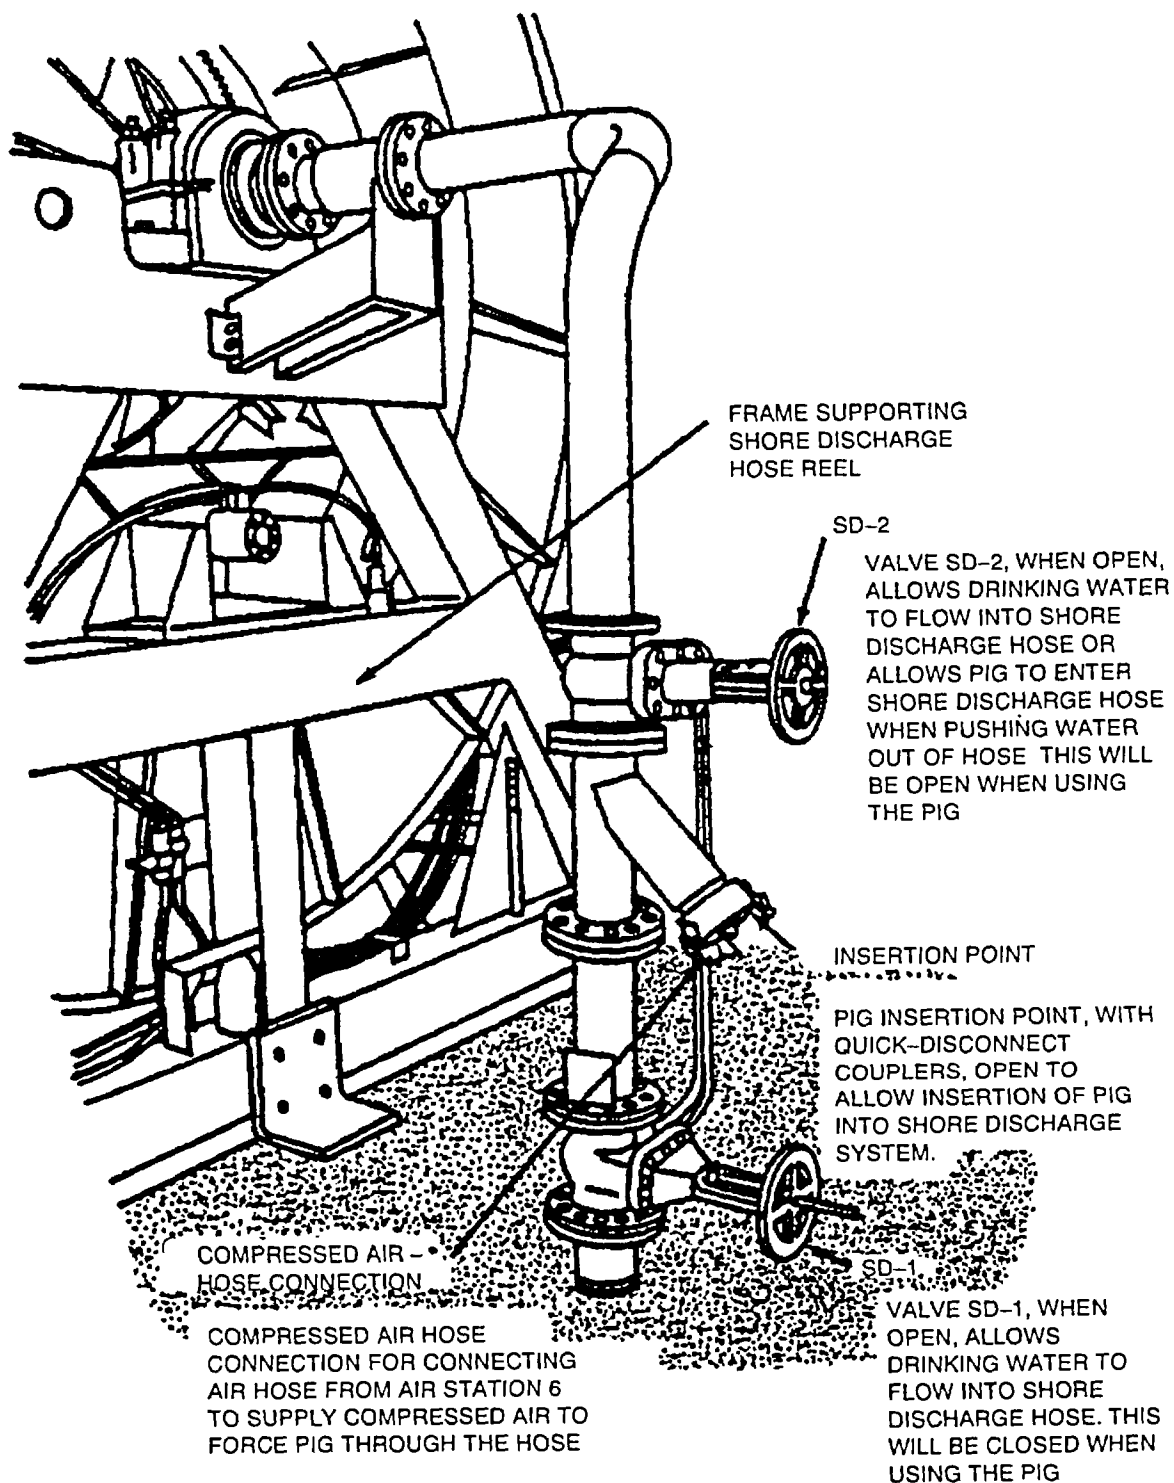

Figure 3-7. PIG Launcher Controls
- c. On PIG launcher insertion point, unlock two quick disconnect couplers and pull cap off insertion tube (Figure 3-7). Insert clean PIG into tube, replace cap, and lock two quick disconnect couplers.
- d. Connect designated 25-foot airhose to compressed air station 6 quick disconnect coupling and to compressed air fitting on PIG insertion point cap (Figure 3-7).